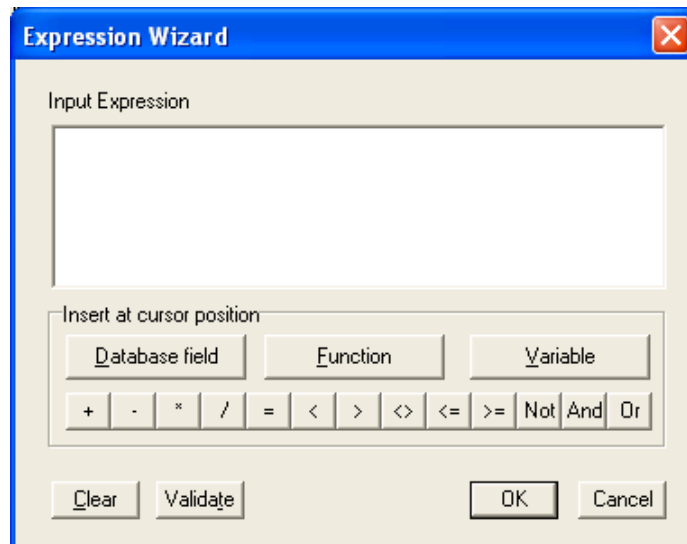

Figure 30 - Expression Wizard
8. The **Expression Wizard** (Figure 30) is displayed.